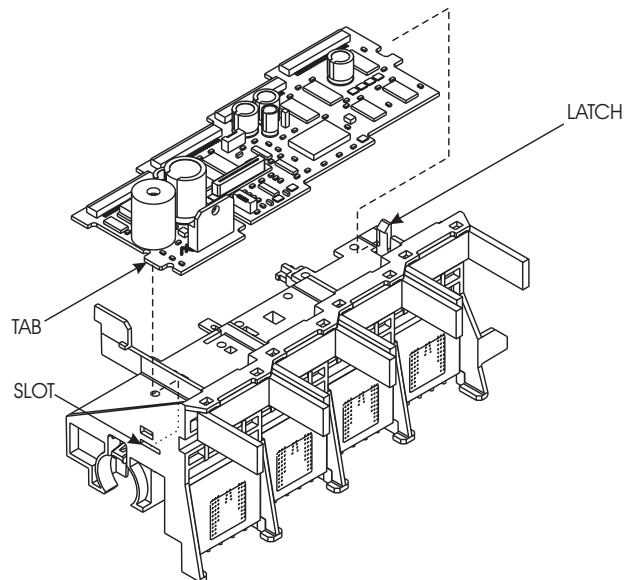

Figure 5-13. Carriage PWA Removal/Installation.
4. Unlock the latch on the right end of the Carriage Assembly and lift up the right end of the Carriage PWA. See Figure 5-13.
1. Put the tab on the left end of the Carriage PWA into the slot in the left side of the Carriage Assembly. See Figure 5-13.